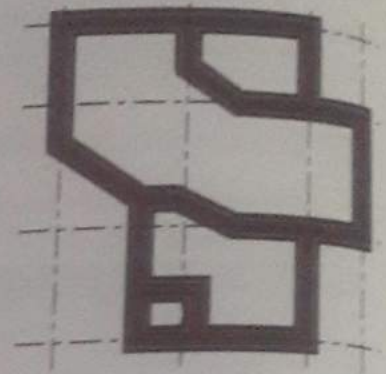

Figure 69: Foundation wall.
10. Create the foundation along walls (Figure 69).